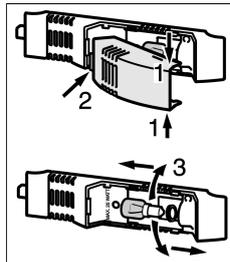

Fig. 13
- ▶ Take hold of the lamp cover at the top and bottom Fig. 13 (1).
- ▶ Disengage the lamp cover at the back and detach it Fig. 13 (2).
- ▶ Replace the lamp Fig. 13 (3).